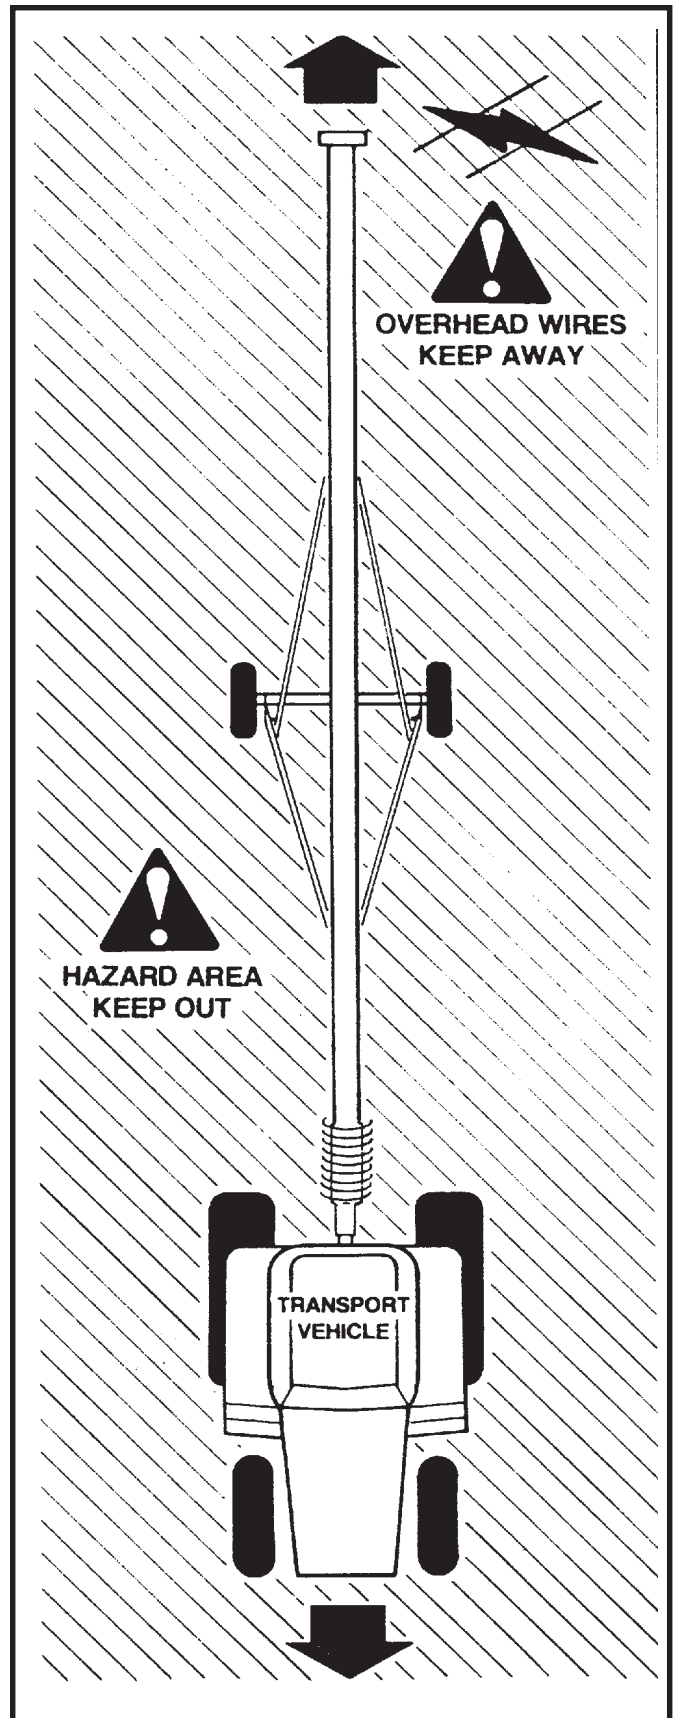

Figure No. 2
Before moving auger, make sure the area around the auger is clear of obstructions and/or unauthorized personnel (see **Figure No. 2**).
**DO NOT ALLOW PERSONS TO STAND BENEATH OR RIDE ON THE AUGER WHEN IT IS BEING TRANSPORTED. (See Figure No. 2.)**